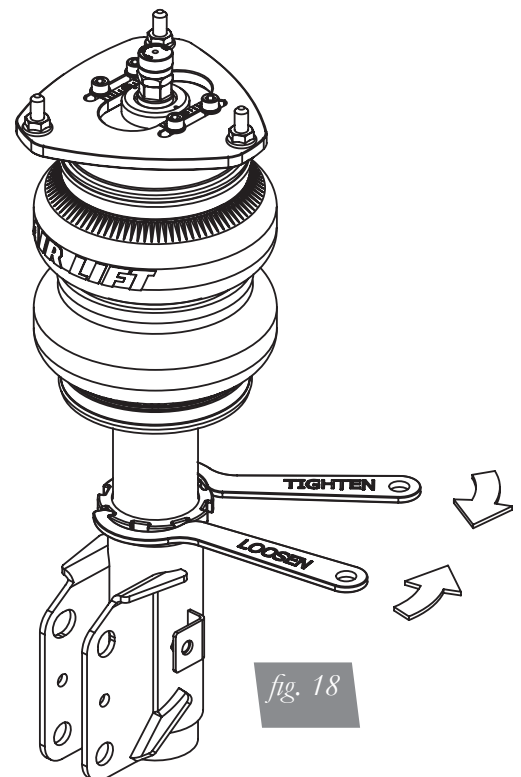

fig. 18
3. Using the supplied spanner wrench, loosen the lower locking collar. (fig. 18)